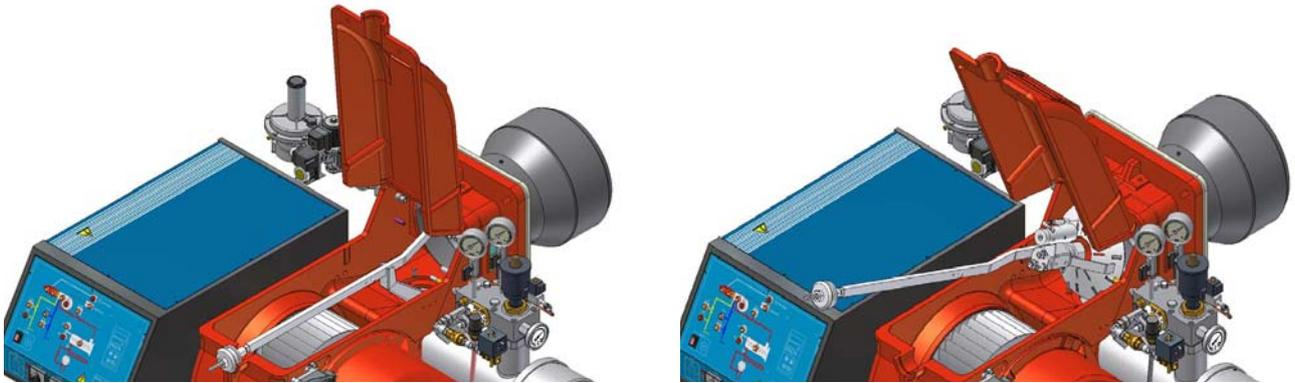

Fig. 26
- Unscrew the flexible hoses from the gun (burner side) and remove the whole assembly as shown on Fig. 26.